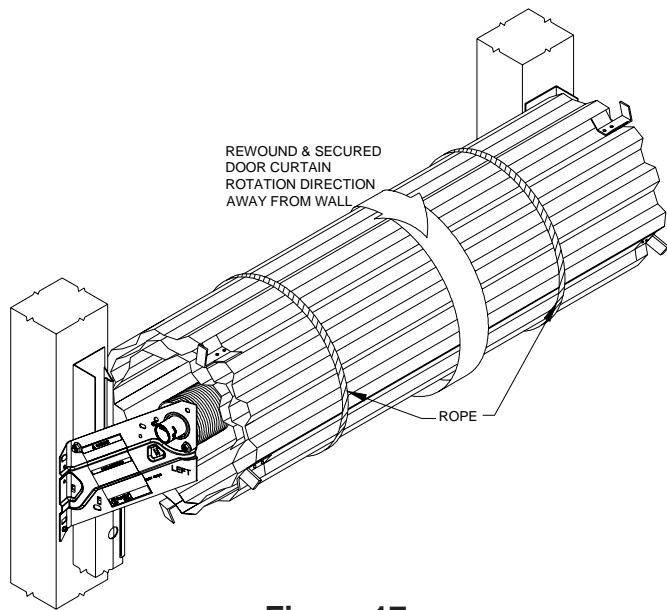

Figure 17.
15.3 Open the door but DO NOT allow it to come out of the guides. Strap two ropes TIGHTLY around the door curtain and tie the curtain SECURELY as it comes out of the guides. See Figure 17.